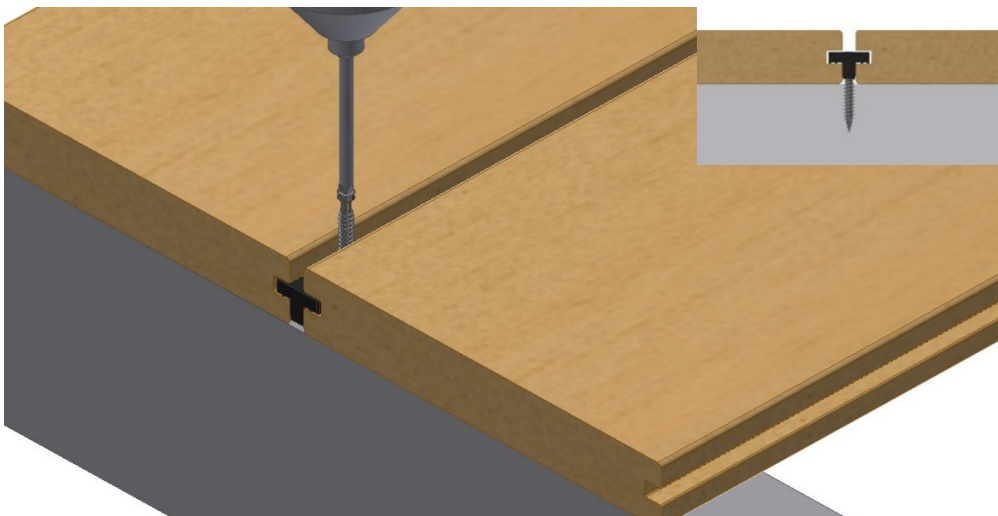

Figure 6
3) Pre Drill the joist and fix all the clips with screws and repeat the process (Figure 6)